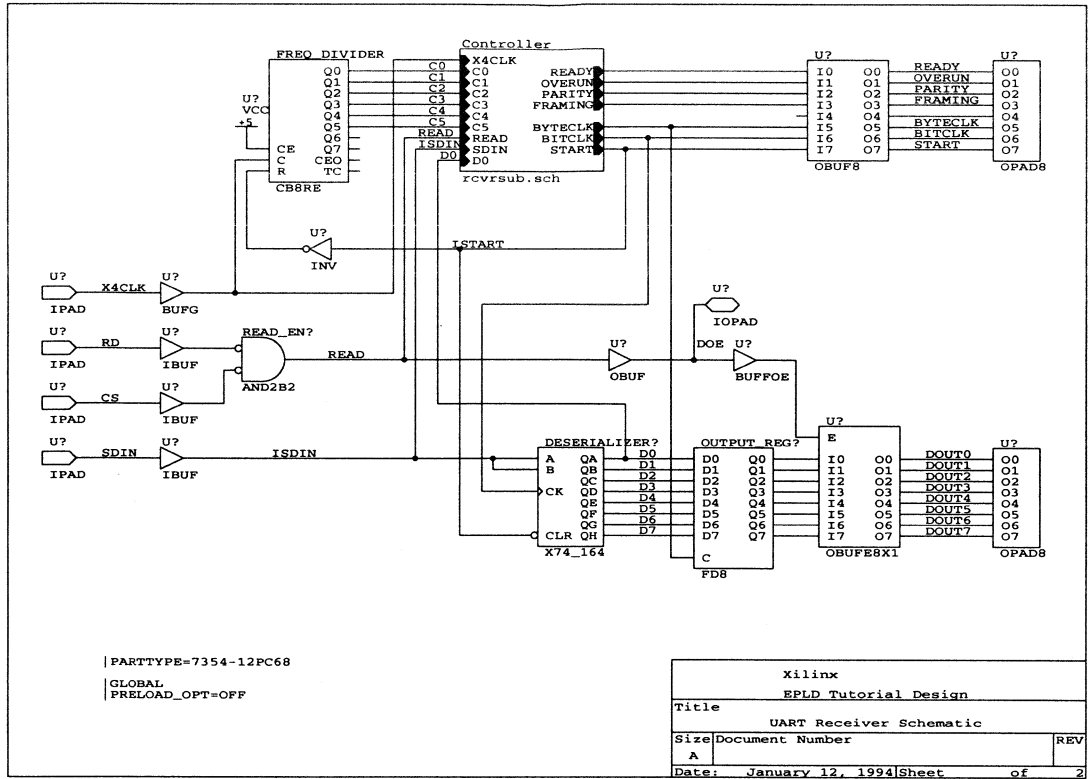

Figure 16-23 UART Schematic with RCVRSUB Sheet Symbol
9. Repeat the last step for the following nets, in order, from top to bottom on the left side of the sheet: C0 - C5, READ, SDIN, and D0. Refer to Figure 16-23 as a guide.
11. Repeat the last step for the following nets, in order, from top to bottom on the right side of the sheet: OVERUN, PARITY, FRAMING, BYTECLK, BITCLK, and START. Refer to Figure 16-23 as a guide.
You have created the RCVRSUB sheet symbol. The UARTTOP schematic appears as shown in Figure 16-23.